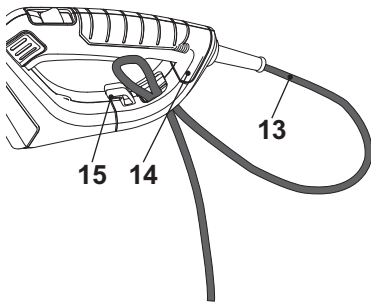

Fig. 3
1. Double the power cord (13) back, about 60 cm from the power guard and lead the loop through the hole of the rear safeguard (14) (Fig. 3).